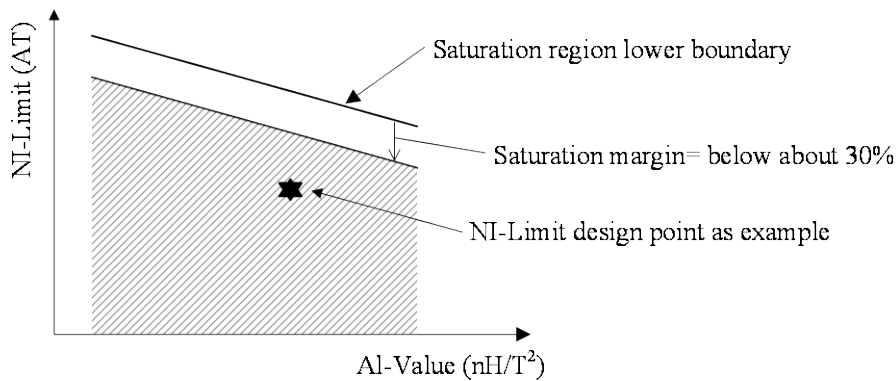

Figure 9-2. Example of NI-Limit vs. AL-Value Characteristics
In transformer design, AL-value and N_P must be set in a way that the ferrite core does not saturate. Here, use ampere turn value (AT), the result of $I_{\text{DP}} \times N_P$ and the graph of NI-Limit (AT) versus AL-value (Figure 9-2 is an example of it). NI-Limit is the limit that the ampere turn value should not exceed; otherwise the core saturates.
When choosing a ferrite core to match the relationship of NI-Limit (AT) versus AL-value, it is recommended to set the calculated NI-Limit value below about 30% from the NI-Limit curve of ferrite core data, as shown in the hatched area containing the design point in Figure 9-2, to provide a design margin in consideration of temperature effects and other variations.